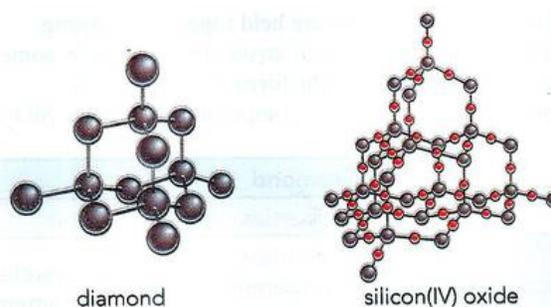

Figure 3.27: Comparison of the structures of diamond and silicon(IV) oxide.
Sand and quartz are examples of silica (silicon(IV) oxide, SiO_2). The silicon(IV) oxide found in quartz has a structure similar to diamond (Figure 3.27). In this structure, each silicon atom is bonded to four oxygen atoms, but each oxygen is only bonded to two silicon atoms. This means that the formula for the structure is SiO_2 .